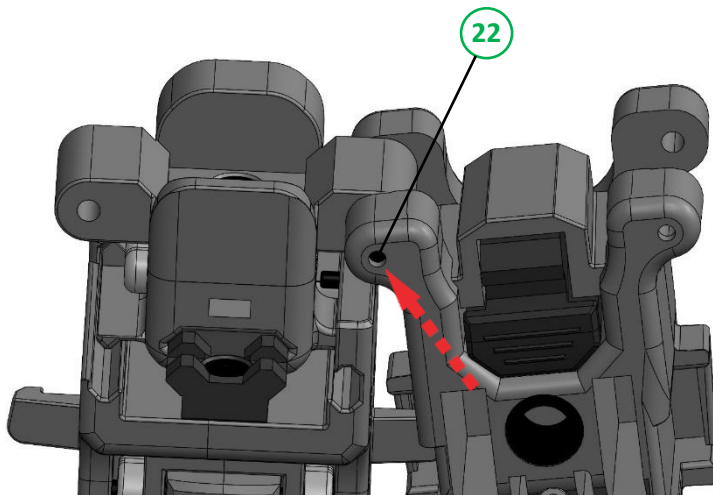

FIGURE 41
To disassemble/change the orientation of the stabilizer you will have to remove the hinge pin (22). First, fold the stabilizer and lock it in place (See **SECTION 2, STEP 2A**). Then, flip the MCK to where you are looking at the bottom side of it. Using a 2.5mm Allen wrench, place it inside the hole (FIGURE 41). Gently apply pressure to push the pin out (You may adjust the stabilizer by moving it to the sides to assist in pushing the pin out smoother. You may also use a rubber mallet to tap the pin out carefully). **DO NOT USE PLIERS TO REMOVE THE PIN AS THIS MAY DAMAGE THE PIN**. Once removed (FIGURE 42), position the stabilizer to the opposite hinge lining it correctly and locked in place. For assembling, see **SECTION 1**.